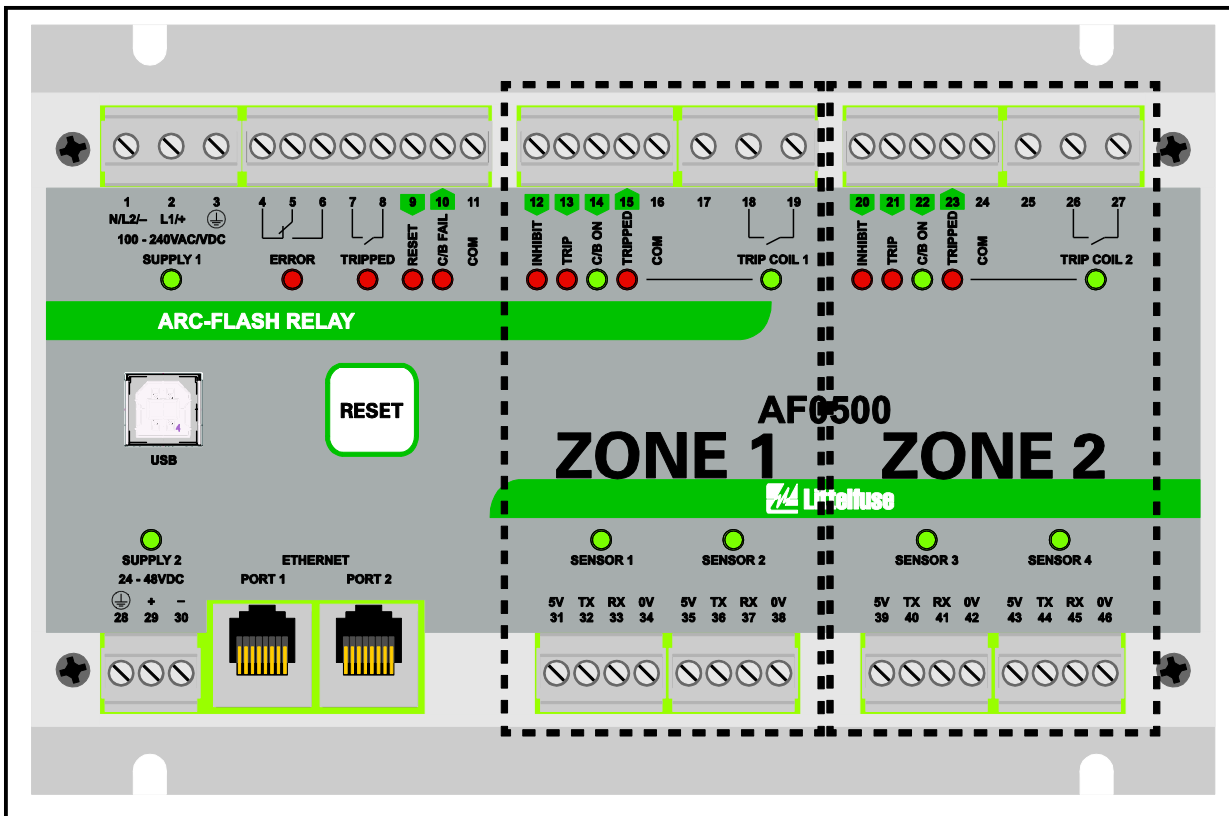

FIGURE 1. AF0500 Default Trip Zones.
The AF0500 design philosophy is to configure one or more zone units to provide arc-flash protection. Each zone unit provides two sensors, one trip coil output, and digital inputs and outputs which make it possible to combine the zone units into larger zones, or to trip an upstream circuit breaker if a local circuit breaker has failed to trip. Each AF0500 provides two zone units, which can be combined freely, with no differences if the zone units are on the same AF0500 or on different physical units. See Fig. 1. The complete configuration and “programming” of the system can be done by simply wiring the inputs and outputs marked with green arrows – no external software is needed.
4. Based on the number of sensors and zones, the necessary number of outputs and sensors can be found. Each AF0500 provides two zones (two circuit breaker outputs) and two sensor inputs per zone, which can be bundled into larger zones by a single wire, and which can combine fiber and point sensors completely as needed. See Fig. 1.